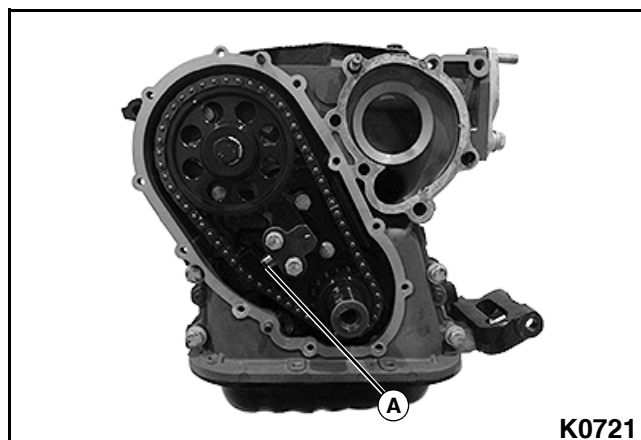

Figure 3-157
1. Using a tension gauge, measure the slack of the timing chain. **See Figure 3-157.**